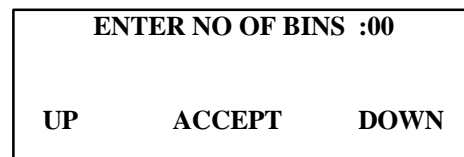

Figure 2
4. After selecting **RESET**, enter the *number of bins* that you will be using by using the **UP** and **DOWN** keys. Select **ACCEPT** when you are satisfied with your choice (Figure 2).